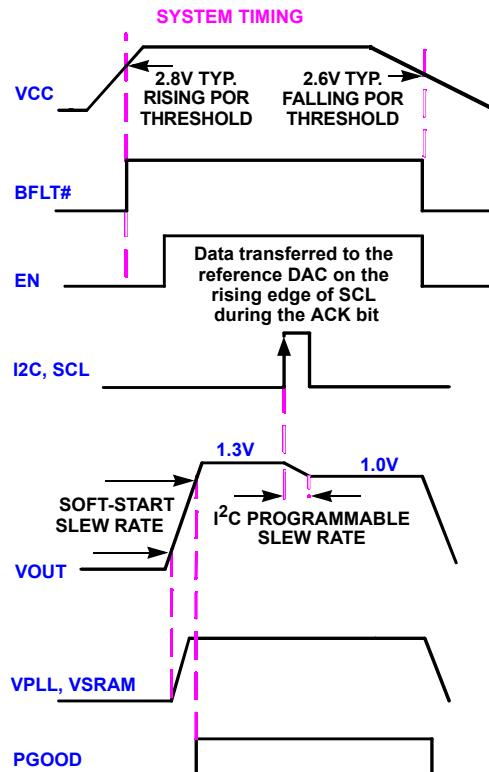

FIGURE 16. SYSTEM TIMING DIAGRAM
Upon application of input power to the ISL6271A, the power good signal (PGOOD) will switch from low to high after four conditions are met - (1) VCC exceeds the power on reset “rising threshold”, (2) the EN pin is high and (3) the LDO input voltage (LVCC) is greater than 1.6V, (4) All three outputs are in regulation. Figure 16 illustrates this start-up sequence. The outputs are powered on under a soft-start regime with the core output voltage defaulting to 1.3V (unless under VID control) and the LDOs at their fixed output levels. Once the outputs are in regulation, the ISL6271A will respond to a voltage change command via the I2C bus.